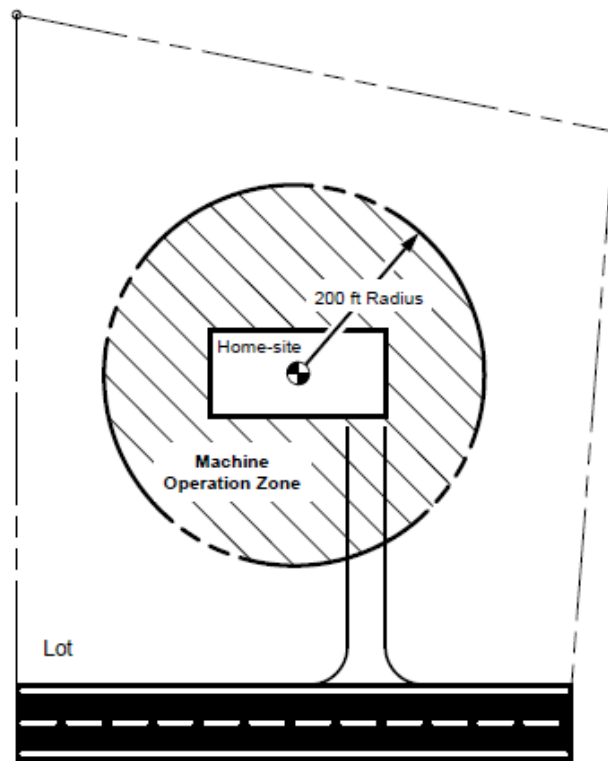

Figure 1-1. Suggested Operation Zone
- The Platypus or Translift is designed to maneuver and locate a manufactured home into final position, after it has reached the home-site. Although the Platypus comes equipped with a ball hitch, the Platypus is not designed for the purpose of transporting the manufactured home over a long distance to the home-site. The Platypus or Translift is intended to operate within a 200 ft radius of the final home-site. See Figure 1-1.